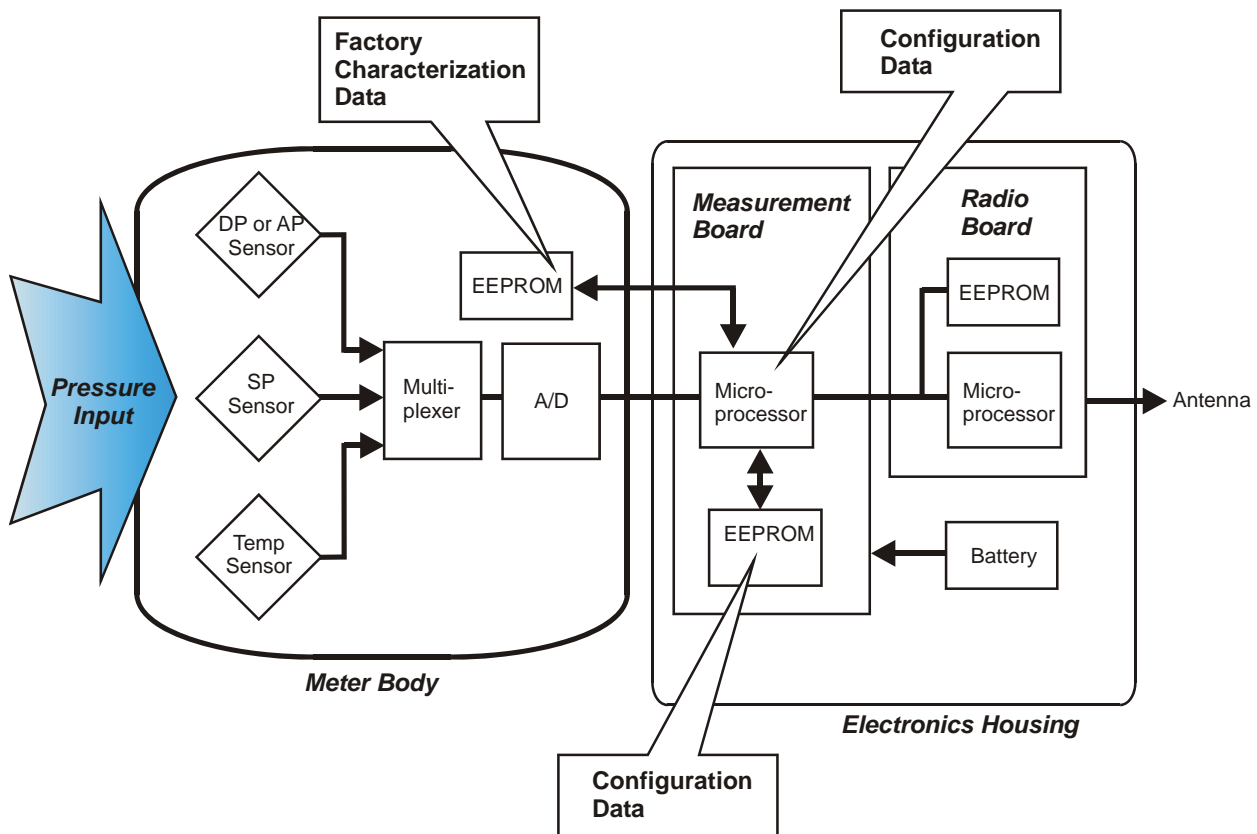

Figure 1-1 XYR 6000 Functional Diagram
The transmitter measures the process pressure and transmits the measured value as a digital output signal in user-configured engineering units. Its major components are an electronics housing and a meter body as shown in Figure 1-1 (a typical differential pressure model transmitter).
The Process Variable (PV) is available for monitoring and alarm purposes. Available PV update rates: 1, 5, 10, 30 seconds and are set on the OneWireless User Interface. Slower update rates extend battery life. The meter body temperature is also available as a secondary variable for monitoring. Figure 1-1 shows a block diagram of the XYR 6000 Pressure transmitter's operating functions.